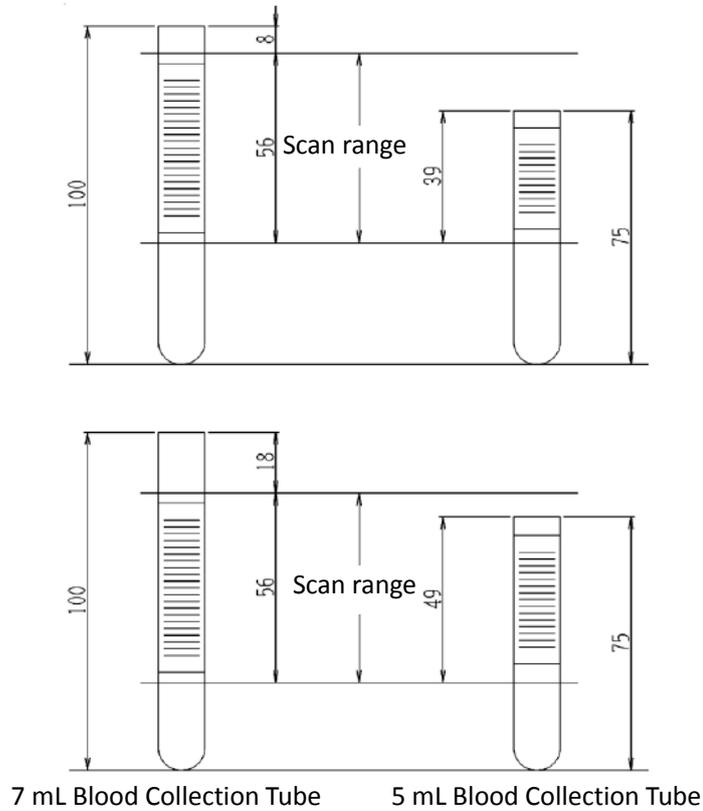

Figure 4.8 Sample Barcode Placement
1. Label the barcode on the sample container to make sure that the label is at least 8 mm from the top and the scan range is 56 mm as shown by Fig 4.8.